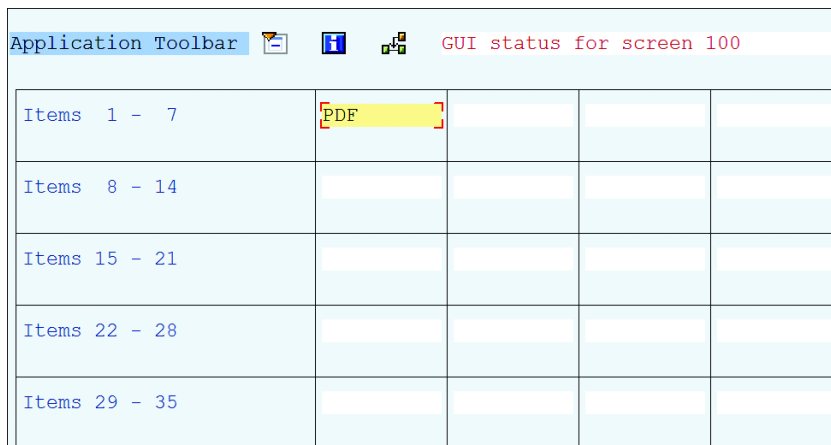

Figure 12.41 Application Toolbar
- To create an application toolbar button, expand the APPLICATION TOOLBAR status (see Figure 12.41). Provide a function code in the available item positions and press `[Enter]`.